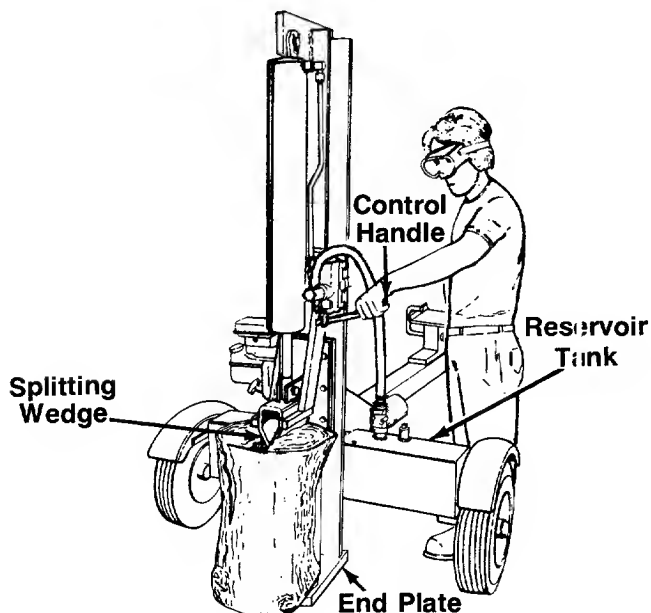

FIGURE 14.—Vertical Position
Use the log splitter only on a level, hard surface. **Never stand next to the splitting wedge when operating the log splitter. Always stand behind the reservoir tank.** See figures 14 and 15. Never attempt to cut a log in half sideways. Always split the log lengthwise. Maximum length of log to be split is 24". If all logs are of a smaller length, refer to "Log Dislodger" in Adjustment Section (Model 424/LC/D/22 Only).
4. **Step behind the reservoir tank** (see figures 14 or 15) and push the control handle in forward position until the log is split.